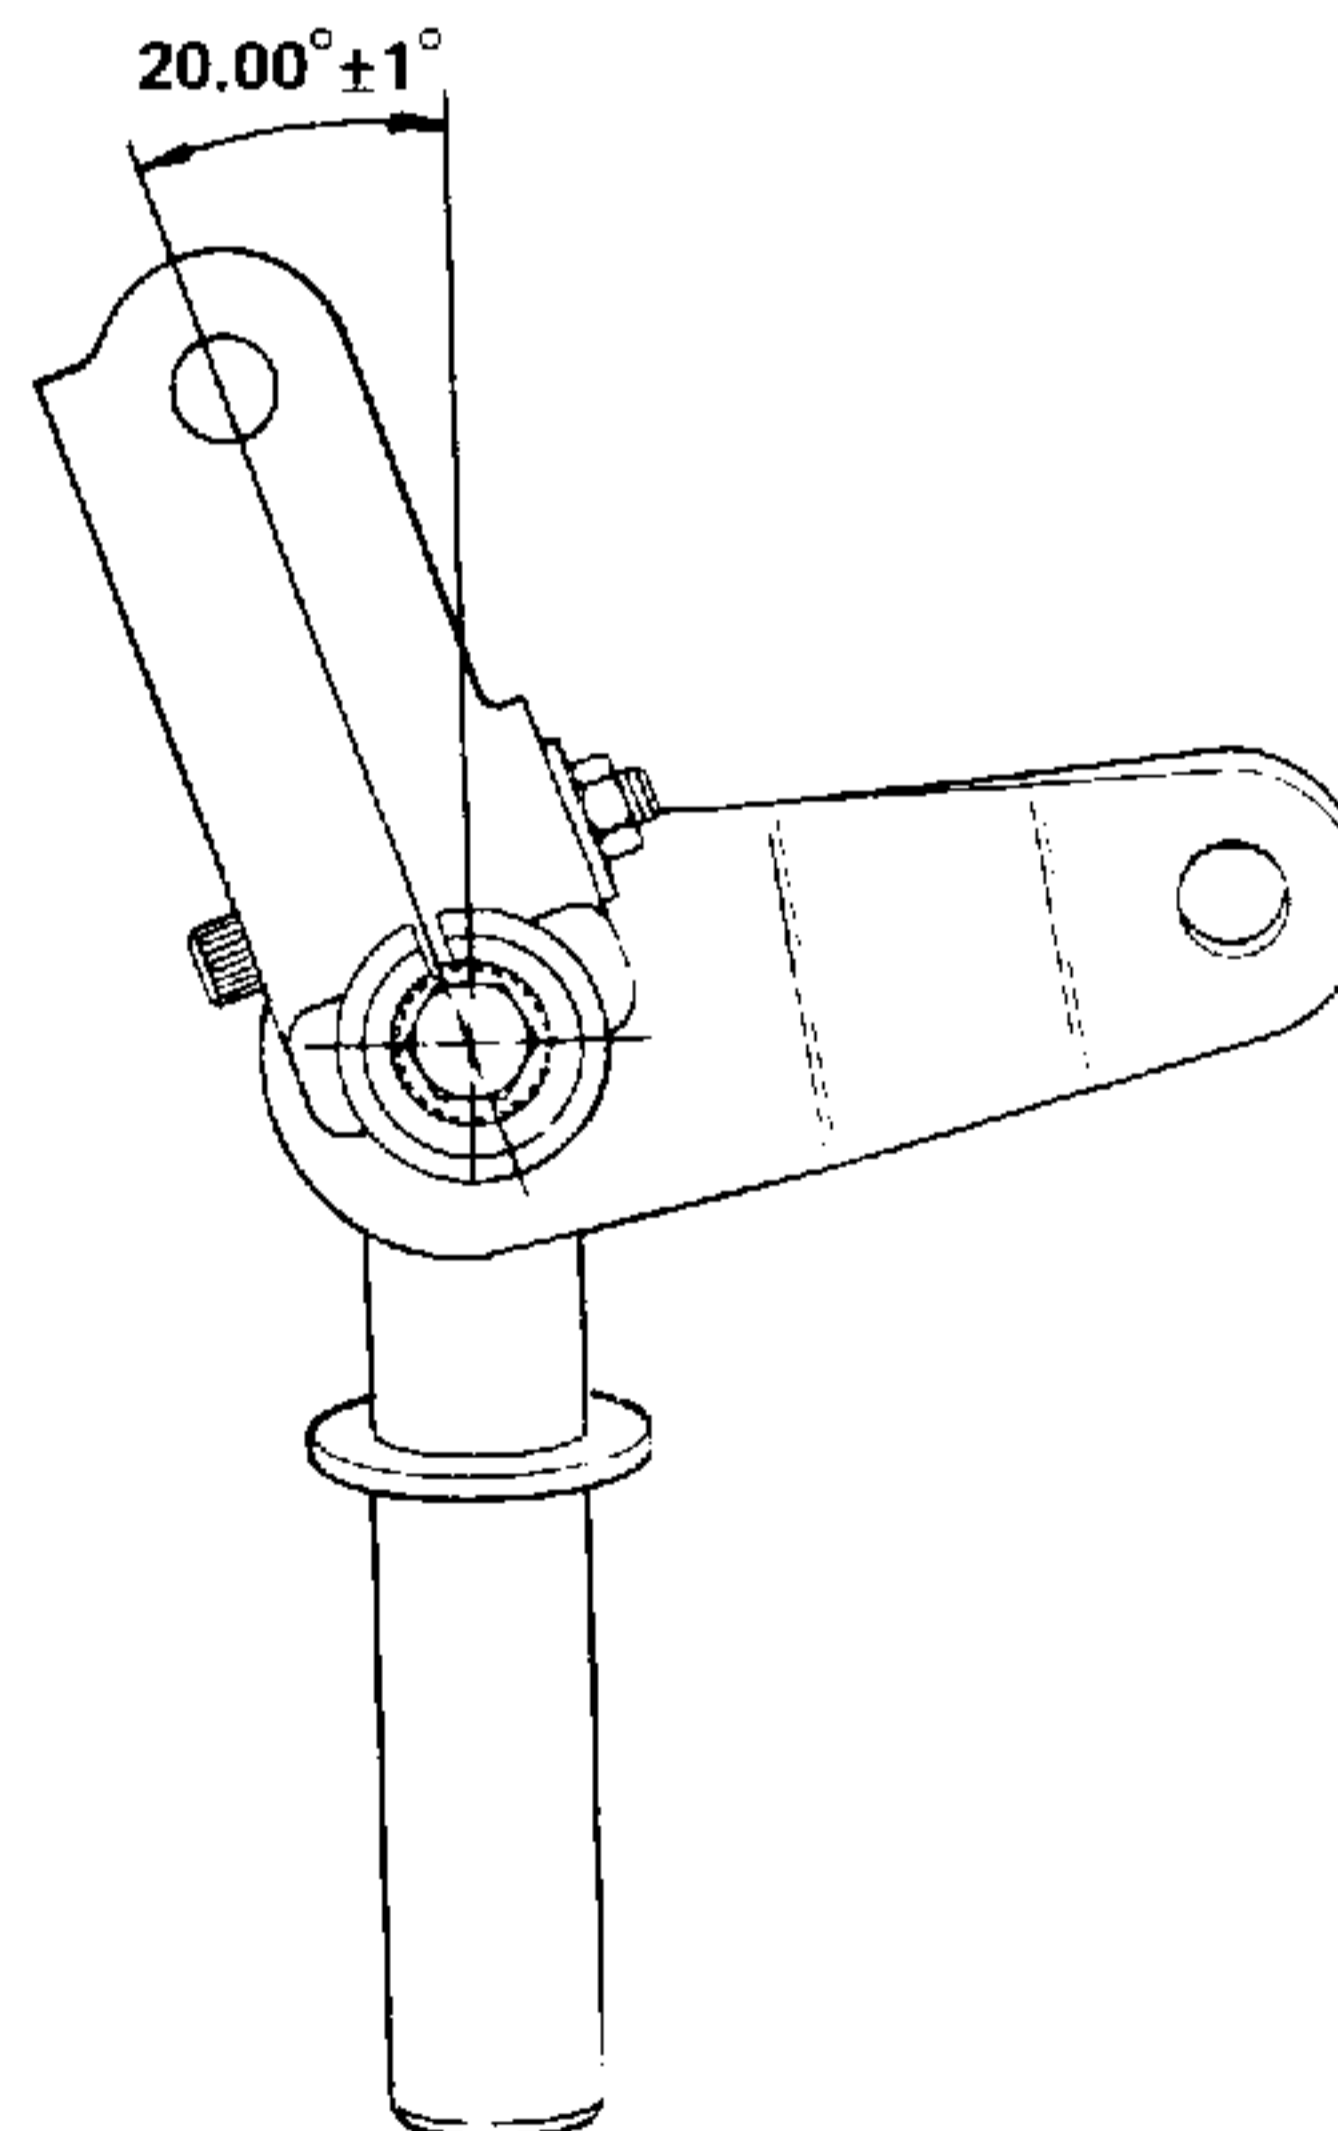

Figure 5-25. Steering Arm Installation (Models 1340, 1535, 1541 and 1860).
The steering arm (22) must be installed so that it is set 20 degrees ahead of the front axle. Refer to Figure 5-25 for proper positioning of steering arm.
- c. Install left steering knuckle (17) by installing thrust washer (23), steering arm (22), socket head cap screw (21), hex patch lock nut (20), flat washer (19) and hex patch bolt (18).
- d. Install tie rod (14) as follows:
- (1) Install hex jam nuts (13) and ball joints (12).
- (2) Secure to right and left steering knuckles (24 and 17) with lock washers (5), hex castle nuts (16) and cotter pins (15).